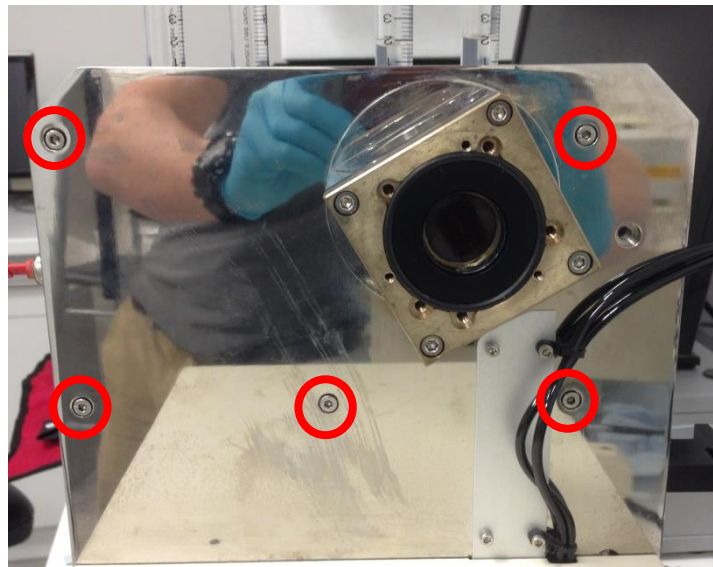

Figure 3.32 - Location of water bath screws at the rear of the KSHU unit
2. With one hand on the water bath, unscrew the five screws located at the rear of the KSHU unit, shown in Figure 3.32. Don't let the water bath drop! Remove the water bath, complete with drive valves and drive syringes and place it in a safe place. You may wish to remove the detectors for better access.